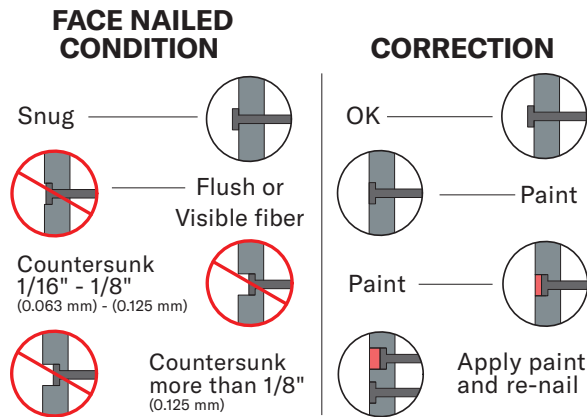

Figure 4a
- Refer to Figure 4a for fastener placement at butt joints.
- Install bottom side of shiplap first. (See Figures 4a, 8a)
- **Face nails:** will occur immediately below window sills, soffit, freeze boards and horizontal trim. Corrections detailed below. (Figure 4a)